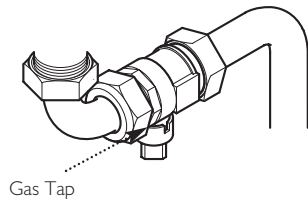

Fig. 7
Turn off the gas supply at the meter and call your gas supplier immediately. It is possible to isolate the boiler and at the isolating valve (Fig. 7).
1. Using a suitable open ended spanner, turn the square nut on the gas tap through 90° (1/4 turn) to isolate the gas supply at the boiler (Fig. 7).